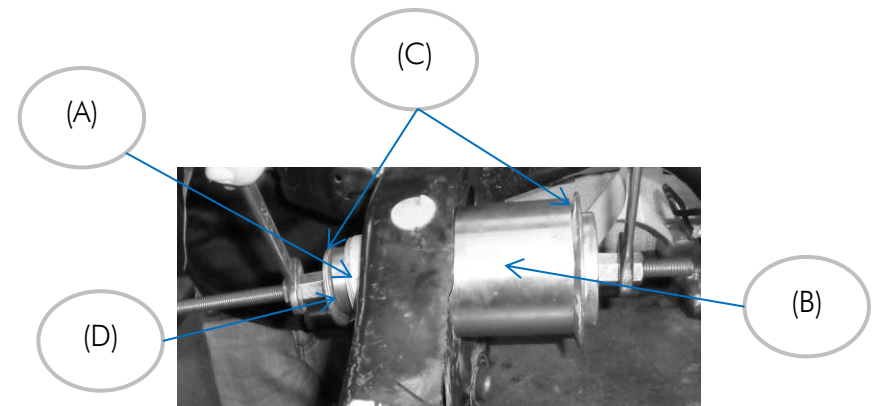

Figure 1: Tools setup for factory bushes removal
- The factory diff mount bushes are shell parts. To remove the factory bushes you will need the following items (Refer to Figure 1): 1 x threaded rod and 2 matching nuts, (A) 1 x metal spacer where it's OD is slightly smaller than the ID/bore of the Diff mount housing, (B) 1 x metal spacer where it's ID is slightly bigger than the ID/bore of the Diff mount housing, (C) heavy gauge washers one to sit outside on each of the metal spacer, (D) old pinion style bearing, 2 matching spanners;